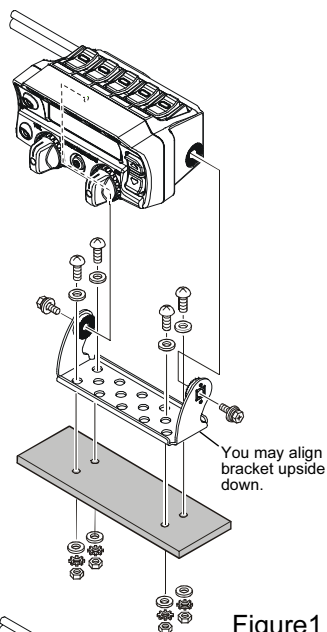
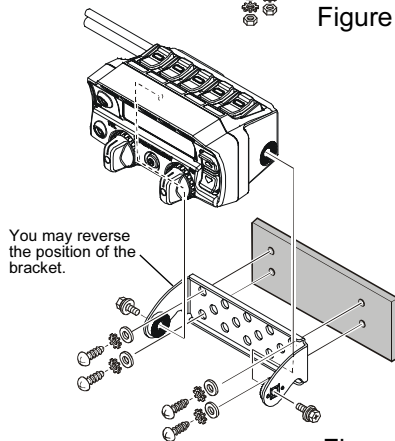

Figure1
Figure2
4. Use a 5.2-mm (17/64") bit to drill the holes, and secure the bracket with (user-supplied) screws, spring washers, flat washers, and nuts (Figure 1), or drill pilot holes with a small drill, and secure the bracket with (user-supplied) self-tapping screws, spring washers, and flat washers (Figure 2).